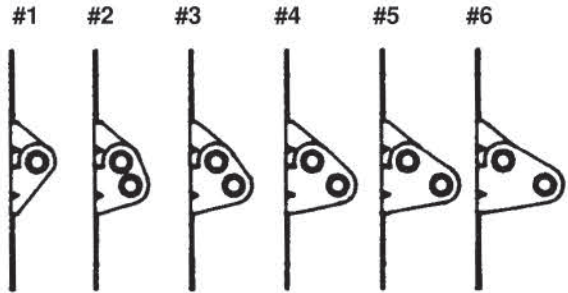

Fig. 2-S
Step 1: On the inside of the garage your opening should be framed with wood jambs, 2" x 6" [51 mm x 152 mm] if possible, or with steel channel as shown in Figure 1-J. The side jambs should extend to approximately the same height as the headroom required. If you have just removed an old door, the condition of the jambs should be inspected. If the jamb has deteriorated, it should be replaced now. The jambs should be plumb and the header level. If there are any bolts fastening the jambs to the wall, the heads should be flush so they don't interfere with the installation of your new door. (FIG. 1-J) Typical installation for wood, steel or masonry jamb material is shown in Figure 2-J.
- **Rollers in end hinges will use farthest sleeve from section. (FIG. 2-S)**
Some have flanges which hook under the bottom section and some do not. Install cables, then position the bracket in place. (FIG. 1-S) Install hinges on end and center stiles of the bottom section using #14 x 3/4" [6 mm x 19 mm] self-drilling screws. See Figure 2-S for sequence and hinge placement. For Model 901 doors and doors with Full Vision see page 13. Stack bottom section in opening. **Long stem rollers provided go into bottom brackets.** Install vertical track as described on page 15. Top rollers will hold section in place.
Section Seal. If section seal is provided or bought as an option, it should be installed over the inside ship lap or inside the groove as indicated in Figure 1-LAP and Figure 2-LAP.
#2 Section. Attach bottom half of center hinges to top of section using #14 x 5/8" [6 mm x 16 mm] hex head sheet metal screws. Attach end hinges. (FIG. 2-S) If section has lock see Step 4 for sequence. Stack section. After section is stacked, rollers in the track will hold section in place. (If struts are supplied see Figure 3-S for placement.)